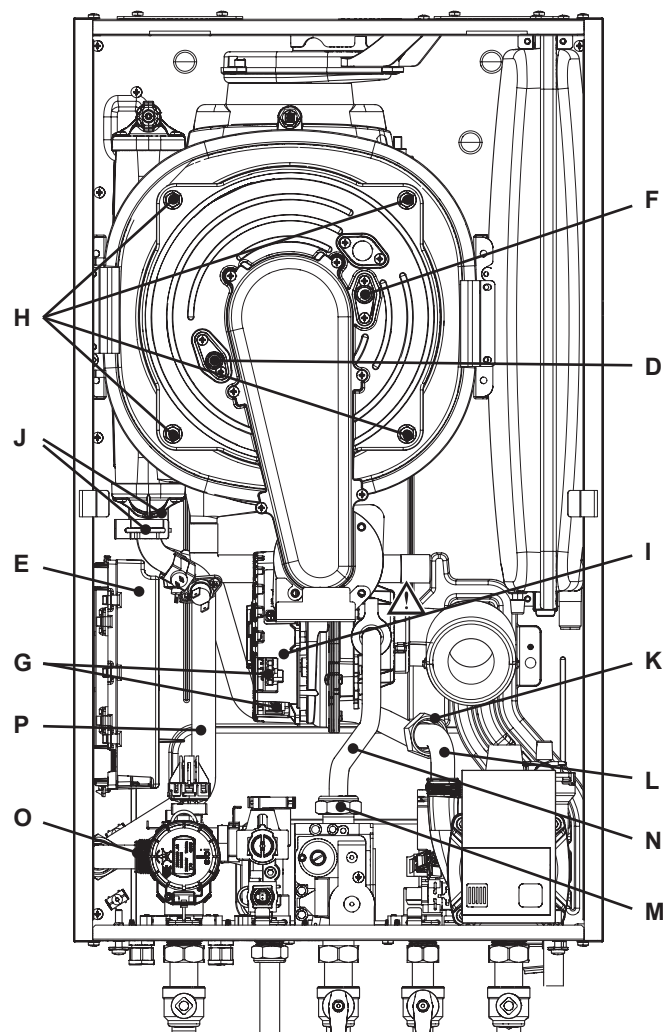

Figure 5.2
- 4 Disconnect the fan connector "G" by pressing the plastic hook placed on the side of the connector (Figure 5.2).
- 5 Unscrew the connector "M" and remove the pipe "L" (Figure 5.2).
- 6 Unscrew the nuts "H" (Figure 5.2).
- 9 Remove the clips "J" (Figure 5.2).
- 10 Loosen the connection "L" and slightly move the pipe "K" upwards, turn it towards left (Figure 5.2) and then move the pipe downwards freeing it from the Condensing heat exchanger.
- 11 Loosen the connection "O" and slightly move the pipe "P" upwards, turn it towards left (Figure 5.2) and then move the pipe downwards freeing it from the Condensing heat exchanger.
Ensure to tighten the nuts "H" - Figure 5.2 firmly.